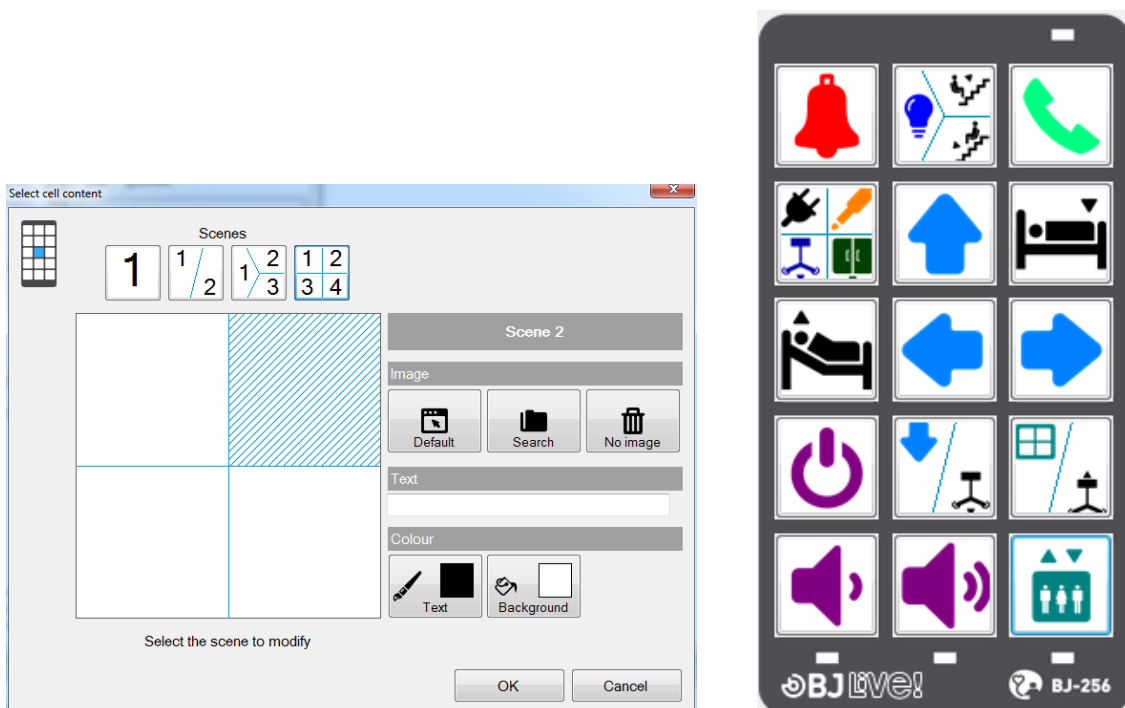

Figure 2. Cells on the BJ-256 remote control
1.	Check that the battery is charged. To do this, check that the LED indicating the battery status (see Figure 2) is not flashing . If the battery status LED is flashing red, you need to charge the battery by connecting the charger supplied with the remote control to a USB port on a computer. When the battery LED turns green, this means that the battery is charged and you can continue to step 2 after you have disconnected the charger.
2.	Follow the instructions in section 3 of this manual to programme the key on the remote that you want to use (e.g. key 5).
4.	Enable the programmed key (e.g. key 5) directly by pressing it. When you press down on the key, its LED will turn red and it will perform the programmed action.